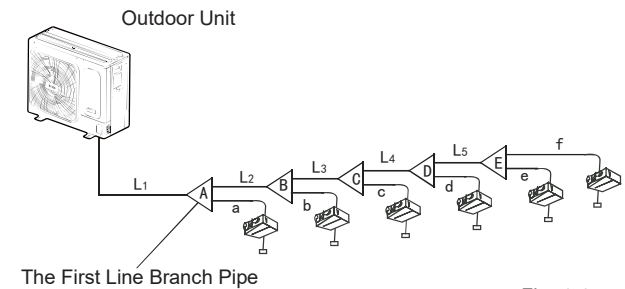
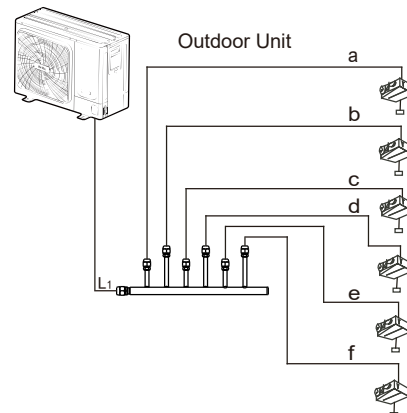
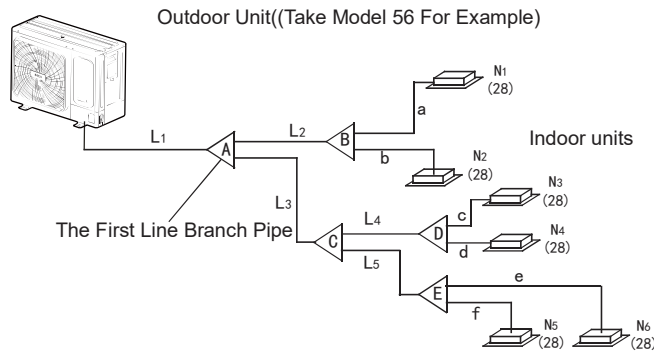
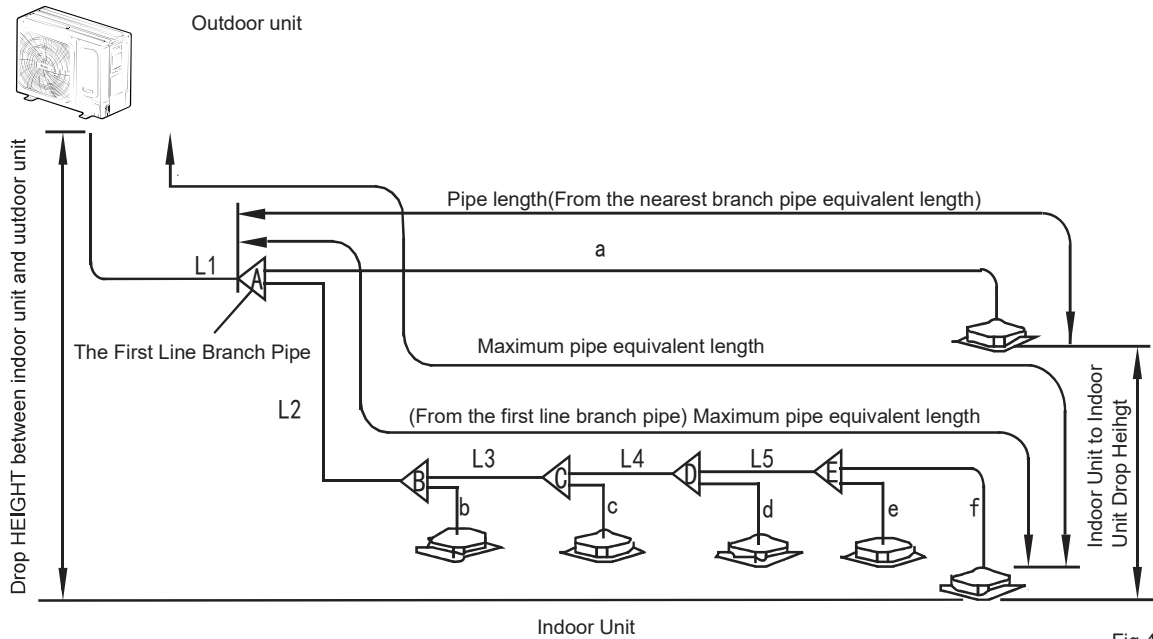

Fig. 4-4
Fig. 4-6
Fig.4-7
Fig.4-8
- Main pipe (Please refer to Fig.4-6 and Fig.4-8)
- In Fig.4-7, the main pipe L1, the outdoor unit capacity is 17kW, and check the Fig.4-8 to get the size of gas pipe/liquid pipe is $\Phi 19.1/\Phi 9.5$, and aslo the total equivalent length of liquid side and gas side pipes is $> 90m$, then check the Fig.4-4 to get the size of gas pipe/liquid pipe is $\Phi 22.2/\Phi 9.5$, and according to the maximum value principle, it should apply the $\Phi 22.2/\Phi 9.5$.